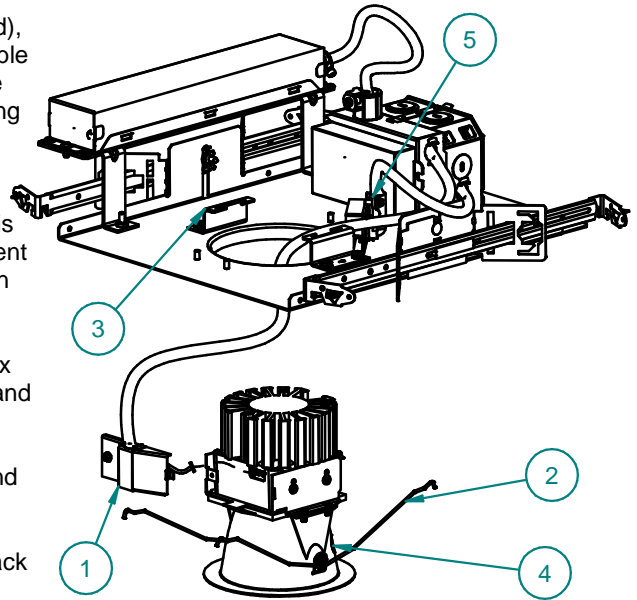

FIGURE 1
5. Pull electrical cover (1) down through opening in fixture. (SEE FIG.1).